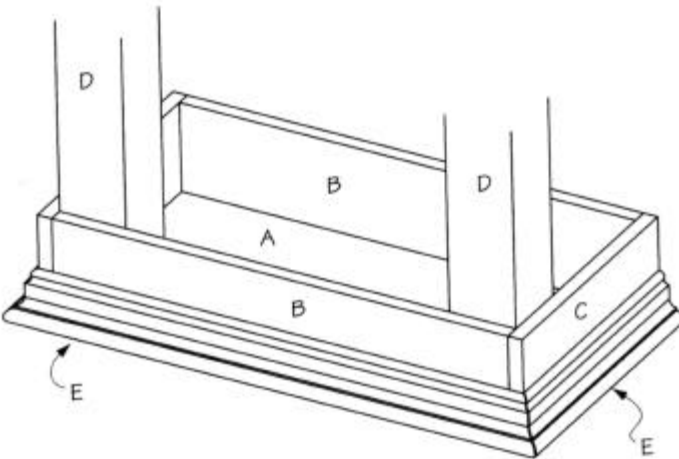

Figure 3
1. Measure carefully, and cut outer trim (D) from 3-inch-wide molding, as shown in *Figure 3*, mitering the molding at each of the corners. Do not attach molding to the back of the telephone table, as the back will be attached to a wall. Apply glue on the meeting surfaces,